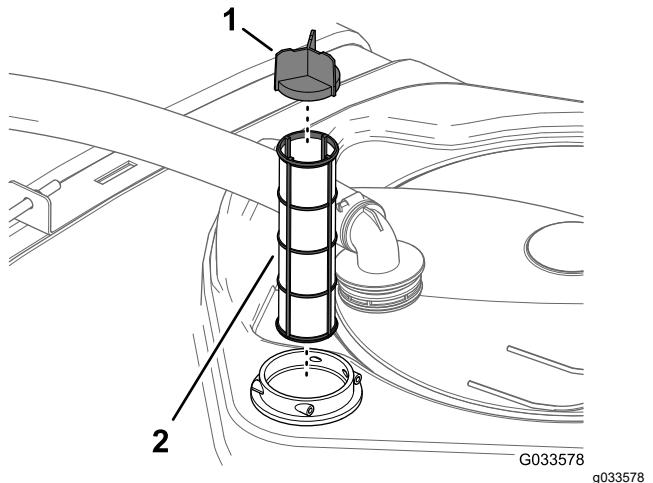

Figure 108
4. Remove the old suction filter from the filter housing in the tank (Figure 108).